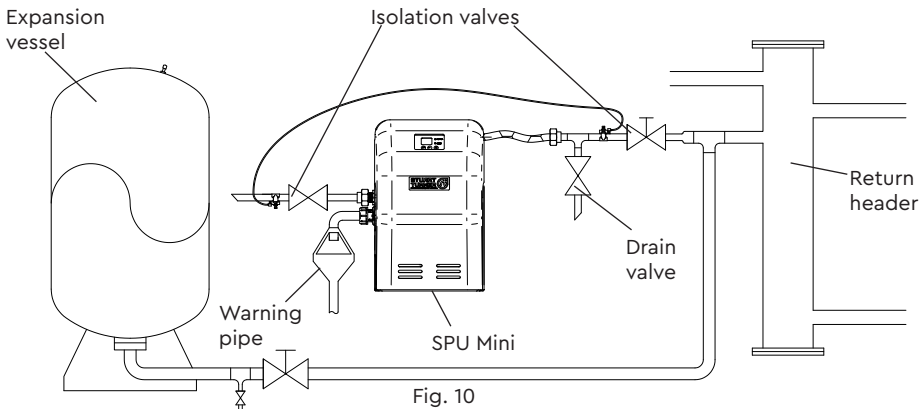

Fig. 10
2. Isolating valves **MUST** be installed on the unit inlet and outlet, before connection to the flexible hoses to allow the unit to be isolated if required. The isolation valve on the outlet should be of a lockshield type. See Fig. 10.
3. A drain valve must be fitted on the outlet of the SPU Mini before the isolation valve. See Fig. 10.
9. The SPU Mini should be connected to the system return header along with the expansion vessels as specified in BS 7074. See Fig. 10.